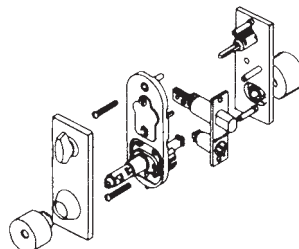

Figure 13.60 Disassemble lock.
8. Disassemble the lock. Remove the inside knob and lift off the outside mechanism (Fig. 13.60).